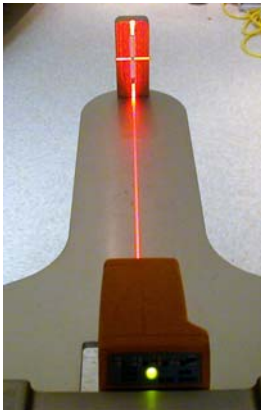

Figure 1-20 Laser Centering
- 7.) Use the locking screw on the bottom of the alignment bar to secure the laser to the bar, as shown in Figure 1-20. When done, the laser should fit snugly without moving on the mounting bracket.